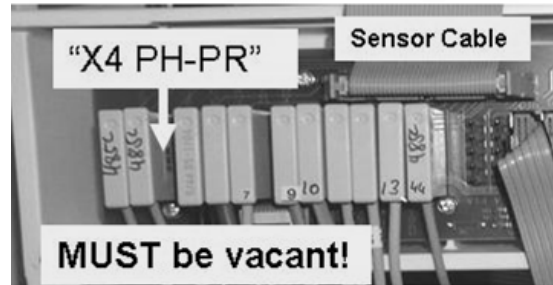

Figure 113A – 24V POWER Harness
- d) Per Figure 113A below, at the rear of the card cage, ENSURE the 24V POWER harness is plugged in securely with the orange wire to the left.